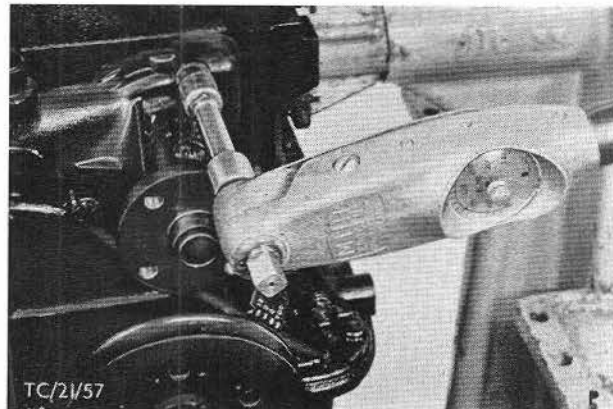

Fig. 56. Install water pump.
58. Fit water pump, Fig. 56. In doing so, tighten bolt of alternator bracket finger tight.